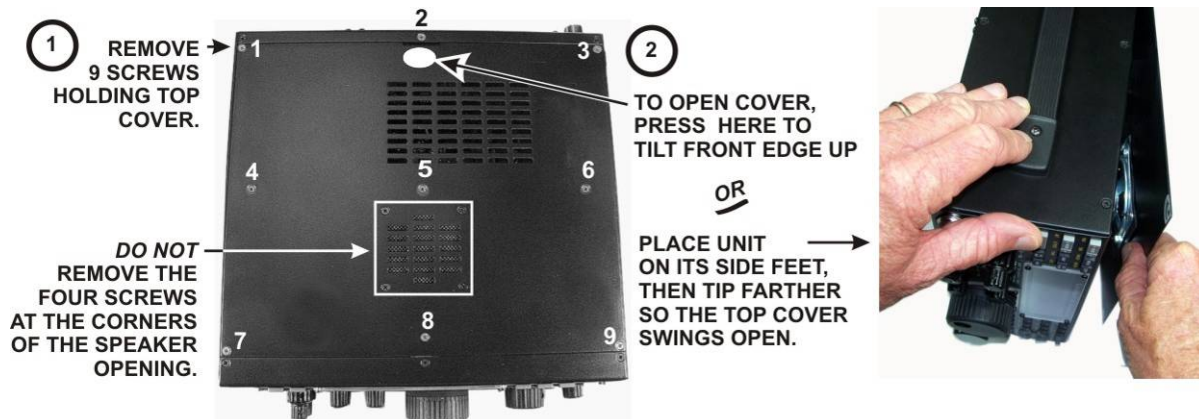

Figure 1. Removing K3S/K3 Top Cover.
- Remove the nine screws to free the top cover as shown in Figure 1. After the cover is open, lift it gently to reach the speaker wire connector. Unplug the speaker and set the top cover aside in a safe place.